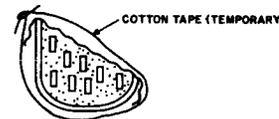
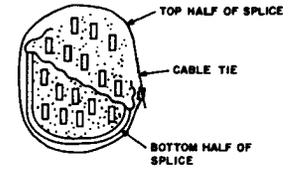

Fig. 9—Securing Screen With Cotton Tape
Fig. 10—Dressing Edges of Screen
(4) Fold the screen over the edge (Fig. 9) and secure with cotton tape in several places.
(5) Complete the remainder of the splice and dress into the tray.
(6) Remove the cotton tape and dress screen edges around the last half of the splice. Secure the splice with cable ties (Fig. 10).